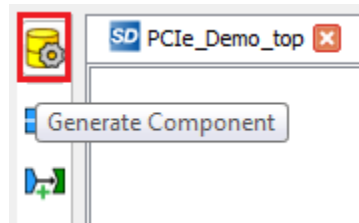

Figure 26 • Generate Component
21. Click the **PCIe_Demo_top** tab and click **Generate Component** icon as shown in Figure 26.